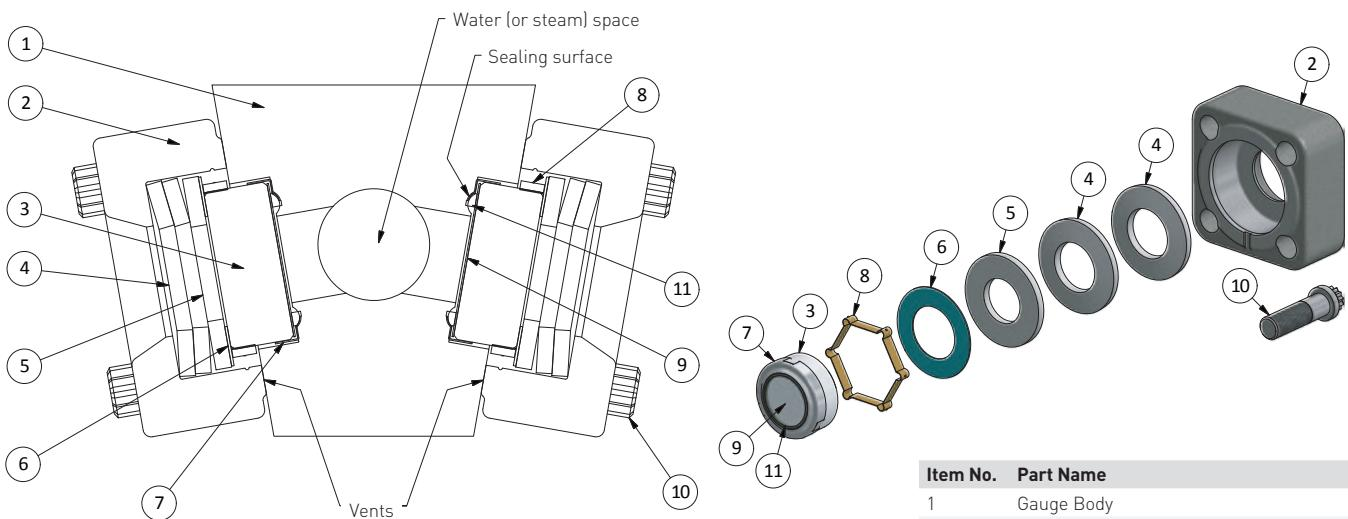
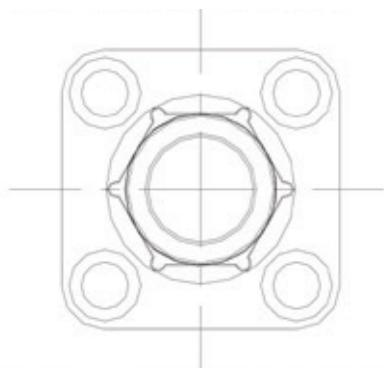

FIGURE 3B
FIGURE 4
(Numbers in parentheses refer to items in Figure 3B)
3. Loosen and remove the cap screws (10). Use a $\frac{3}{8}$ " size socket wrench.
4. Remove the viewing port assembly completely. Figure 3B shows a cross section. Retain the cover (2), spring cones (4), washer (5), and retaining spring (8). Discard the used cushion gasket (6) and the used glass-mica-gasket-clip ring assembly (7, 11, 9, and 3).
(Number in parentheses refer to items in Figure 3B)
1. Lightly lubricate the cap screw (10) threads with high temperature anti-seize compound.
2. Properly orient spring cone(s) [4] into the cover [2]. See Figure 3B. Note that the conical shape touches the cover on the large diameter and makes contact with the flat washer [5] on the smaller inside diameter.
5. Install the retaining spring [8] into the cover. See Figure 3B.
6. Taking the repair kit as an assembly (glass, mica, sealing gasket, and clip ring) insert it directly into the retaining spring and into contact with the cushion gasket [6]. See Figure 3B and Figure 4.
7. Inspect for assurance of proper assembly and clean parts. The sealing gasket (11) should be firmly centered in the clip ring [7].